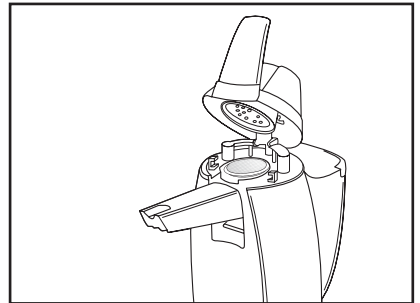

FIGURE 5
3. Lift Lid by pulling out on the Lever. Top will pop up. Push back so Lid is in fully raised position, see Figure 5.